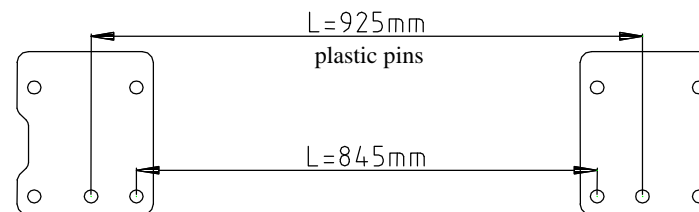

Fig.2 Element's distance
3. On the left and right side in the boot are plastic pins (diameter 11 mm). On this pins put elements pos. 6 (check position of hole A) – see fig. 2. Next drill holes through holes pos. B and C, use bit  $\varnothing 11$  mm, drill straight through.
4. Put bolts M10x40 through holes (pos. C) in element pos. 6 and next from below of car put element (pos. 4) from the left side (fix loosely), from the right side put element (pos. 5) - fix loosely too.
5. Through holes pos. B (in elements pos. 6) put bolts M10x30 and fix them with floor and element (pos. 7).
6. In this way prepared elements (pos. 4 and 5) put main bar of the towbar (pos. 1) and fix it using bolts M12x30 (loosely).
7. Through holes (pos. D) fix with original tow handle using distance plain washers  $\varnothing 58 \times \varnothing 12 \times 6$  (pos. 8).
10. Fix tow-ball (pos. 2) and socket plate (pos. 3) using bolts M12 x 70mm (pos. 9) from equipment.